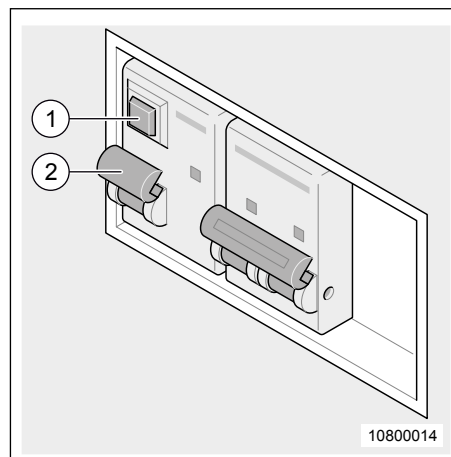

Fig. 41 Circuit breaker
→ Check the correct operation of the FI circuit breaker (Fig. 41, Pos. 2) monthly. For this purpose, press the test button (Fig. 41, Pos. 1). The FI circuit breaker (Fig. 41, Pos. 2) must switch off immediately. Observe additional information on the device!
- Move the switch position of the FI circuit breaker to "1" (top) for the 230 V operation (Fig. 41, Pos. 2).